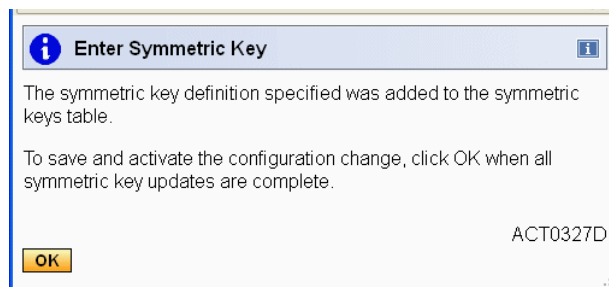

Figure 1-7 Symmetric Key definition confirmation
5. The final confirmation for the symmetric key definition is shown. Click **OK** to confirm (Figure 1-7).